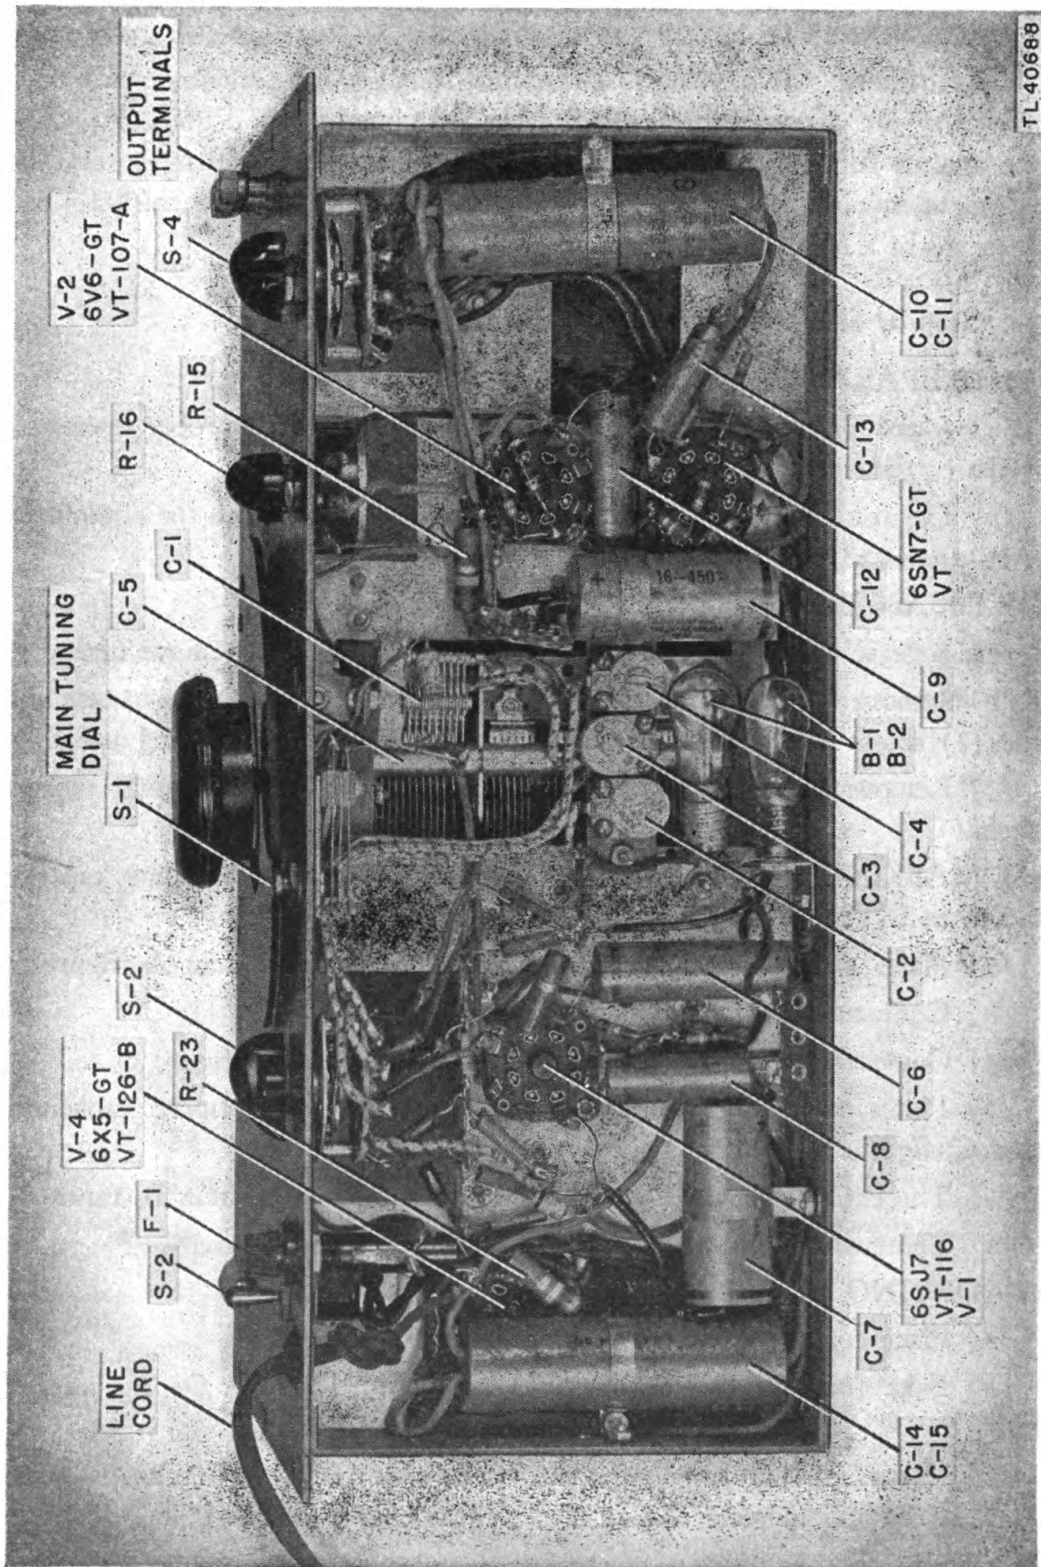

Figure 5. Bottom view of chassis.
a. Replacement of Lamps. The neon lamp may be replaced, if damaged, with no further adjustment. The lamp is a standard $\frac{1}{4}$ -watt, 120-volt neon lamp having a candelabra base. Lamps B-1 and B-2 are located on the underside of the chassis (fig. 5).
d. Voltage and Resistance Chart. A chart giving all voltage and resistance measurements taken from the tube sockets is shown in figure 4. The location of the tube sockets is shown in the bottom view of the chassis as illustrated in figure 5.